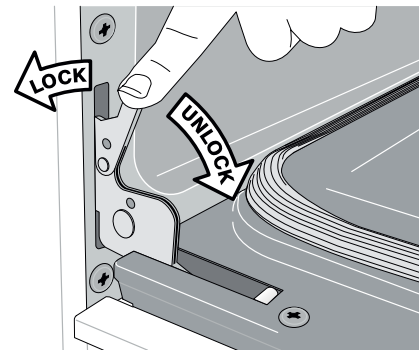

Fig. 2
4. Push the door hinge locks up towards and into the oven frame for both left and right oven door hinges to the lock position (See Fig. 2).